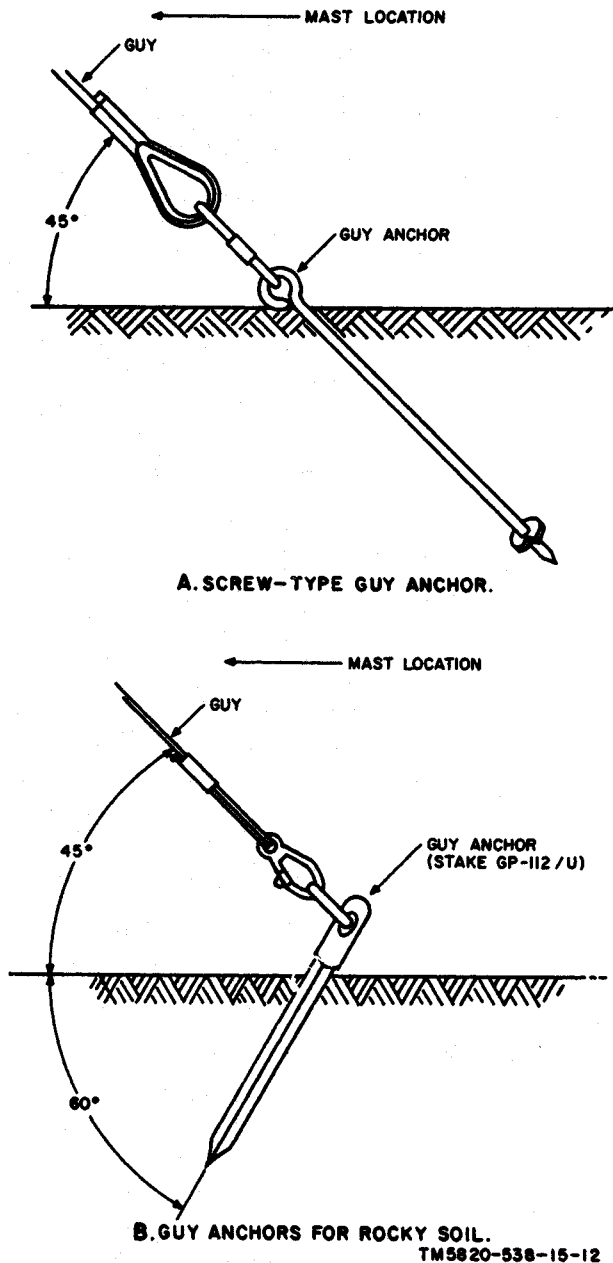

Figure 2-8. Guy anchors installed in earth.
- (c) Start the anchor vertically into the earth, then slant the top of the rod approximately 45° toward the mast base location (A, fig. 2-8).
- (2) When using GP-112/U stakes for rocky soil:
- (a) Use the digging bar and hammer to drive a hole for the stake no wider or deeper than necessary. The slope of the hole should be at approximately a 60° angle, *slanted away from the mast base location* (B, fig. 2-8).